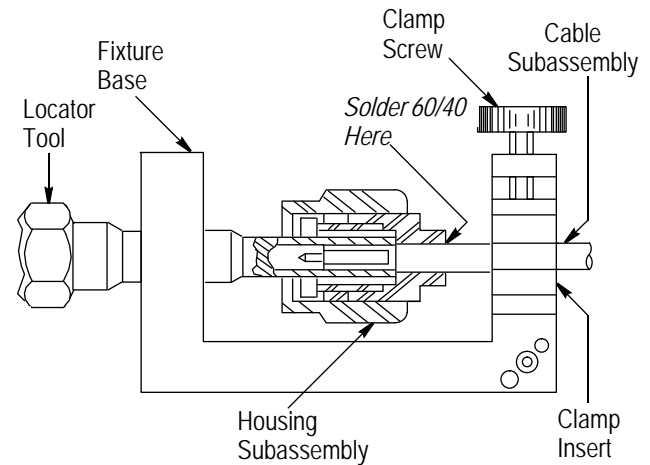

Figure 5
3.3. Solder Cable Subassembly to Housing Subassembly (Figure 5)
2. Place the loose assembly in the fixture base as shown in Figure 5.